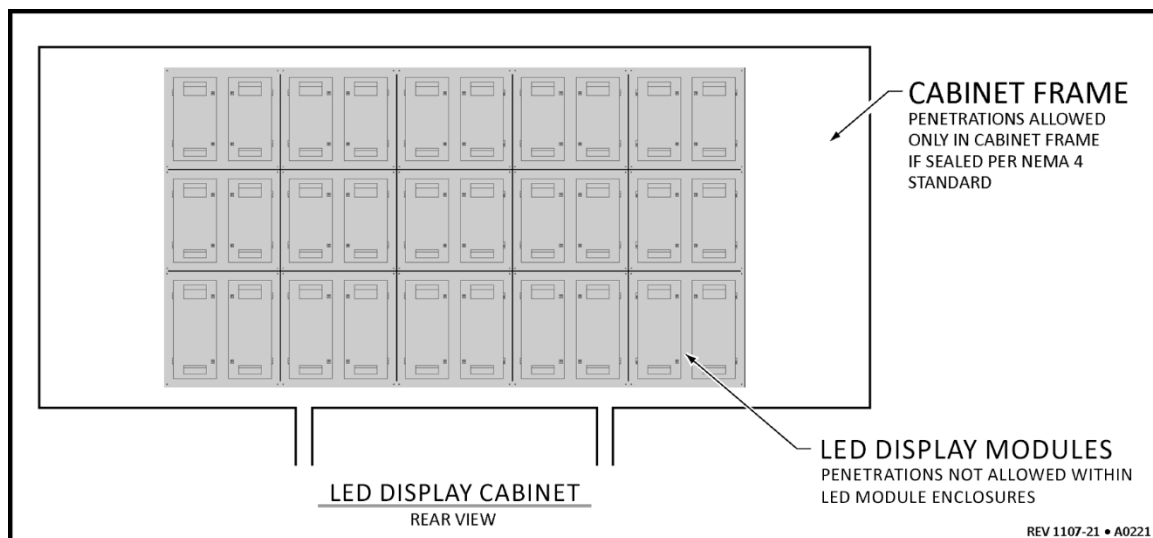

FIGURE 19 — CABINET FRAME VS LED DISPLAY CABINET
- Additional penetrations may be created in the LED display cabinet only if they are sealed per NEMA 4 Standard. Additional penetrations are NOT allowed to the LED display module enclosures. Refer to Figure 19 below.